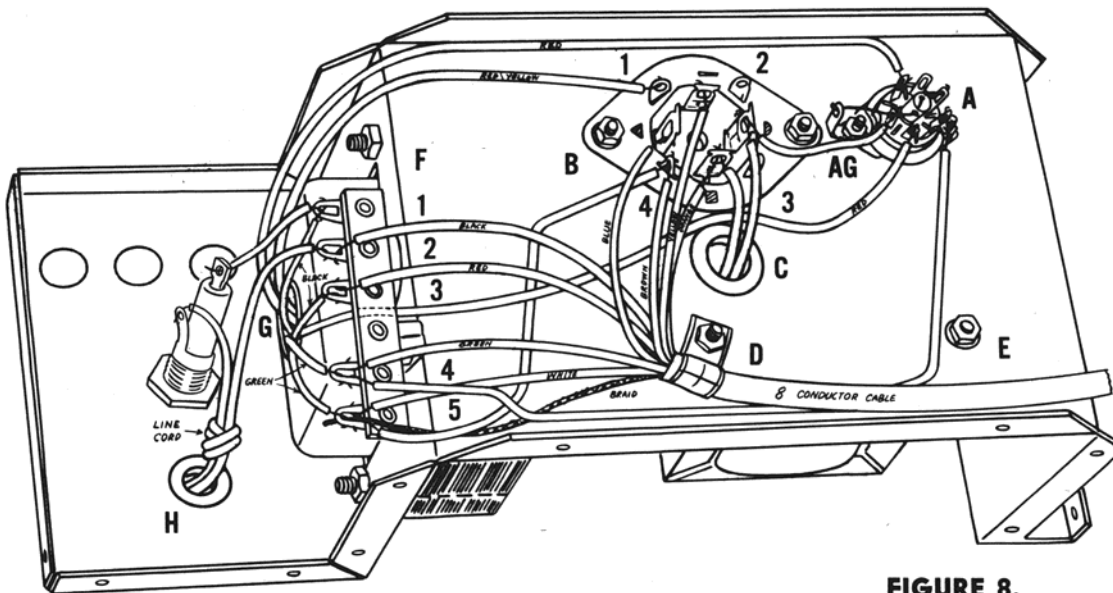

FIGURE 8.
- Place the chassis on the work bench in front of you so that its position corresponds to Figure 8. Referring to this diagram, mark all chassis holes with the grease pencil to correspond with the markings on the diagram.
- On the OTHER side of the chassis, position the power choke, part #TC1102, over holes "D" and "E", orienting it so that the two leads are near the grommet at "C". Fasten with 6-32 screws, nuts, and lockwasher, with the head of the screws on the choke side of the chassis. Do not mount the cable clamp that appears in Fig. 8 at hole "D" at this time.
- Mount the 5 terminal strip at position "F" as shown in Fig. 8. Use a 6-32 screw, nut, and lockwasher, with the head of the screw on the choke side of the chassis.
- Mount the Electrolytic capacitor can on the choke side of the chassis in its mounting plate previously installed. Note carefully that there are small cutouts in the phenolic base of the can next to each of the terminal lugs. Be sure to position the capacitor on its mounting plate so that the (Δ), (\triangleleft), and (\square) cutouts are in EXACTLY the same relative positions as they are in Fig. 8. With a pair of pliers, bend each of the mounting tabs with a quarter turn to the left so as to secure the can in place.
- Place the cable clamp over the free end of the cable, on the plastic jacket just past the point at which the cable was stripped. Position as shown in Fig. 8.